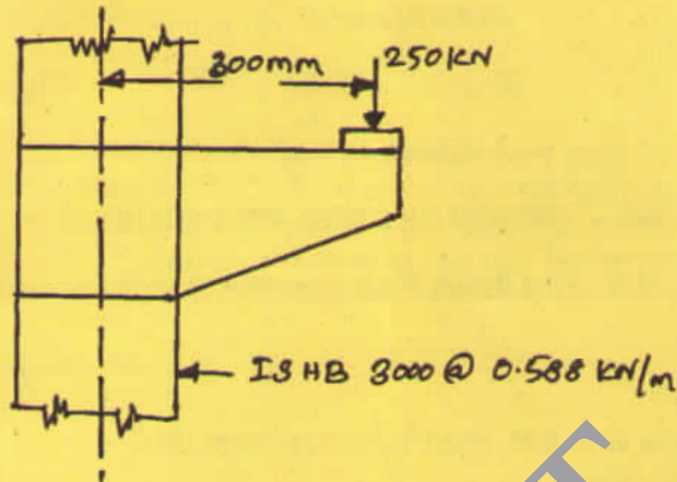

Fig. 11 (a)
11. (a) Design riveted connections for a bracket as shown in Fig. 11 (a), carrying an eccentric load of 250 kN at a distance of 300 mm from the centre line. Adopt limit state design concepts.